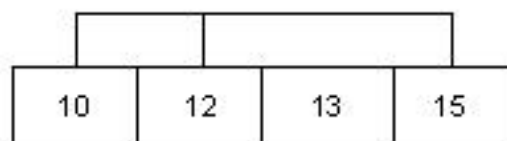

Figure 1 – Configuration 1
- 1.5 Perform a continuity check at the PAM side (top) of the terminal rail, to verify the following configuration (Figure 1):